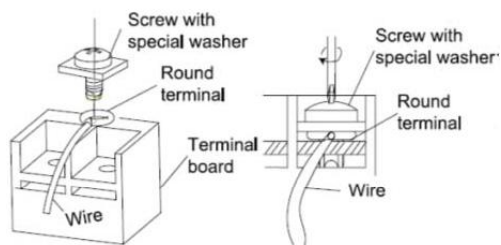

Fig. 4.38
4. Position the round terminal wire, and replace and tighten the terminal screw with a screwdriver.(Fig. 4.38)